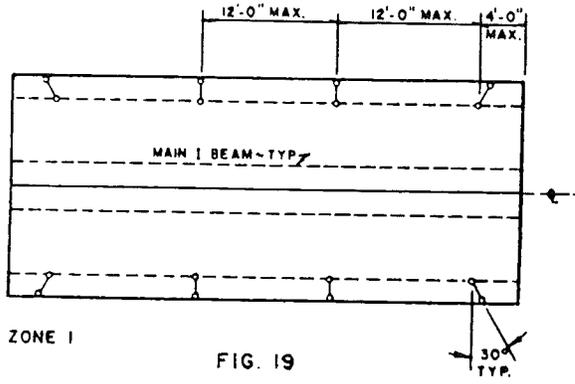
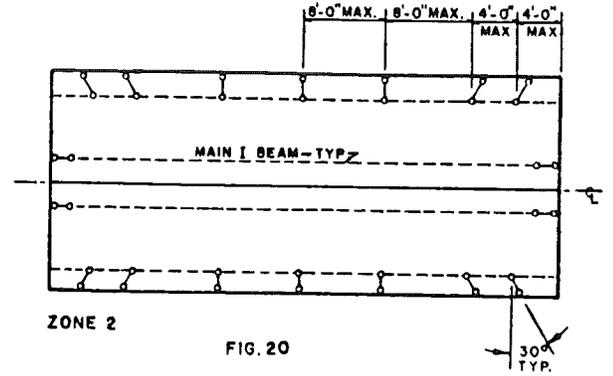

FIG. 19
FIG. 20
All sectional homes should be securely anchored to resist the overturning and lifting effect of high winds. Be certain that the home is level before proceeding since jacking an anchored home may cause structural damage. This manufactured home was designed for the wind conditions specified on the data plate located at the electrical panel. Homes designed for Zone I are equipped with tie-down attachment provisions as shown in fig. 19 and fig. 20 for Zone II. Since it is important to use materials of proper design and quality, the following specifications should be considered minimum requirements.
1. Position and install the ground anchors so that the final strap angles are within the limits shown in figs. 19, 20 and 21.
Zone II homes are equipped with tie-down attachments on the main I beam in the same manner as Zone I. See fig. 20 for the spacing of ground anchors and tie-downs.